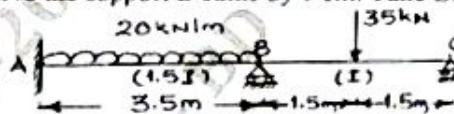

Fig.Q3
- 3 Analyze the continuous beam shown in Fig.Q3 by using moment distribution method. Draw BMD SFD and elastic curve the support B sinks by 1 cm. Take $EI = 500 \text{ kN-m}^2$.